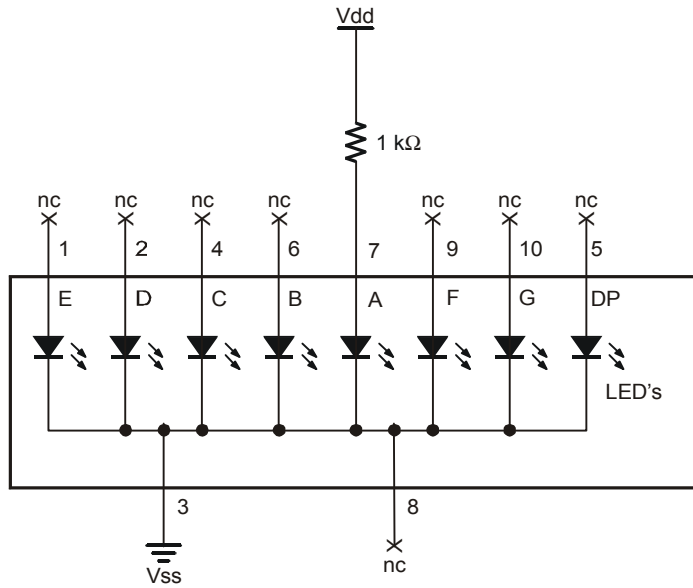
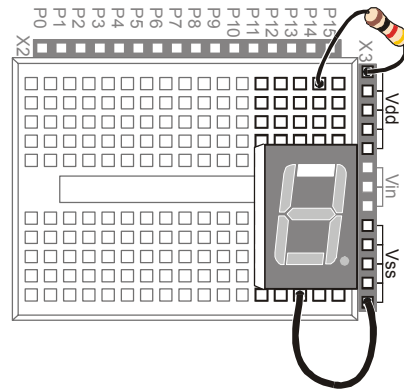

Figure 6-4
Figure 6-5
- √ With power disconnected from your Board of Education or HomeWork Board, build the circuit shown in Figure 6-4 and Figure 6-5.